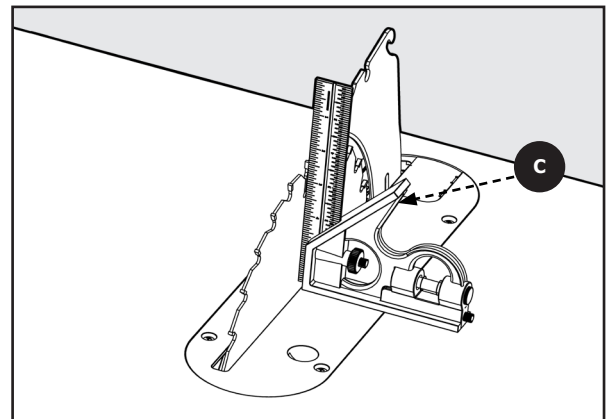

Figure 24
3. Using a combination square **C**, check the angle of the blade face to the table, as shown in Figure 24. Confirm the blade is at 90° to the table.